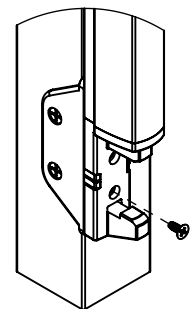

FIG. 5
2. Position at proper height and secure with the small Countersunk Screw (Fig 5).